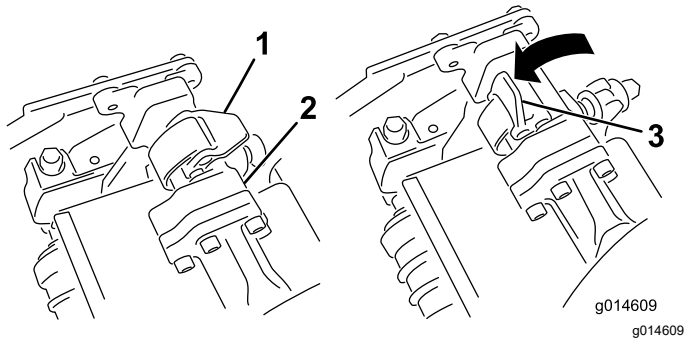
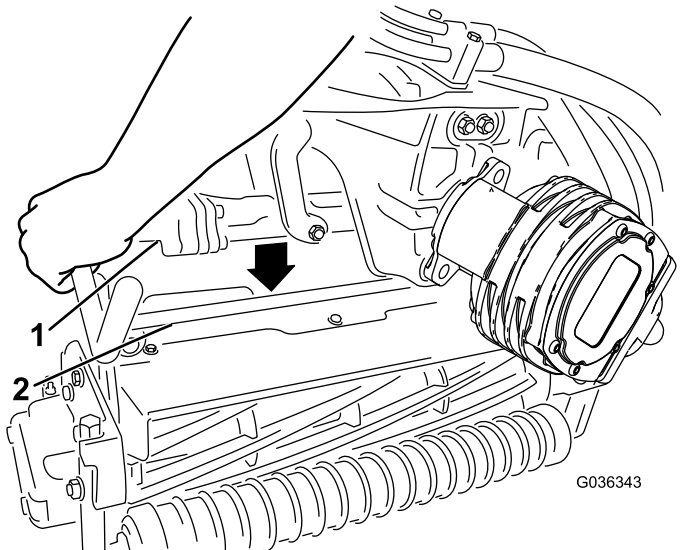

Figure 54
Figure 55
4. With the latches on the suspension-arm bar pointing up (i.e., open) (Figure 54), push the suspension arm down so that the bar fits over the bar across the top of the cutting unit (Figure 55).
5. Close the latches down and around the cutting-unit bar and lock them in place (Figure 54).
5. Open the latches on the suspension-arm bar of the cutting unit you are removing (Figure 54).